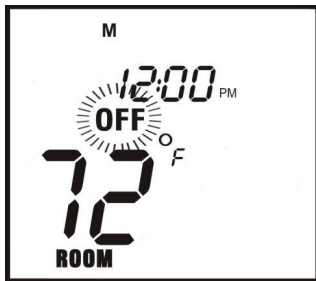

Fig. 8 OFF Mode
To operate the transmitter, first press the MODE button until the LCD screen reads OFF in the display (Fig. 8).
- Step 3:** Press the MODE button a third time to turn the appliance back **OFF** again as show in Fig. 8.